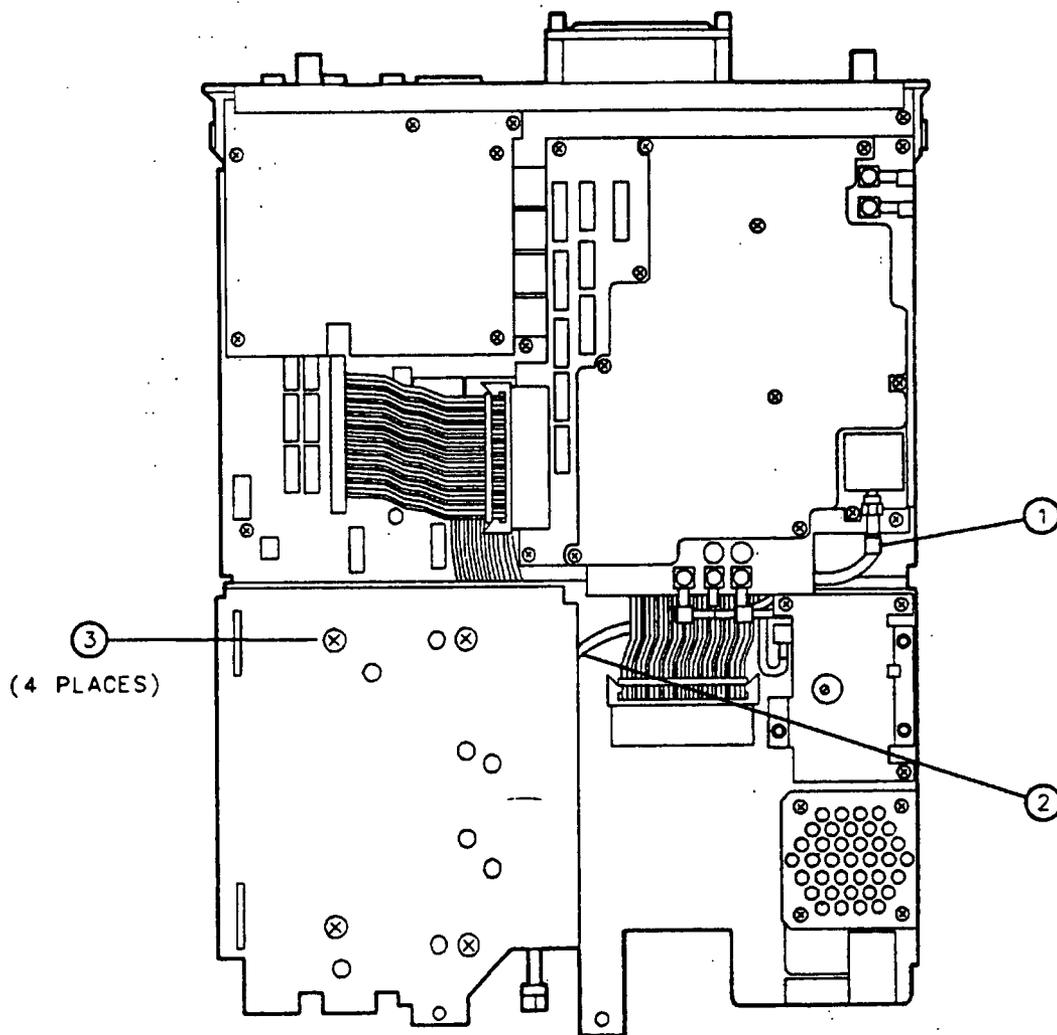
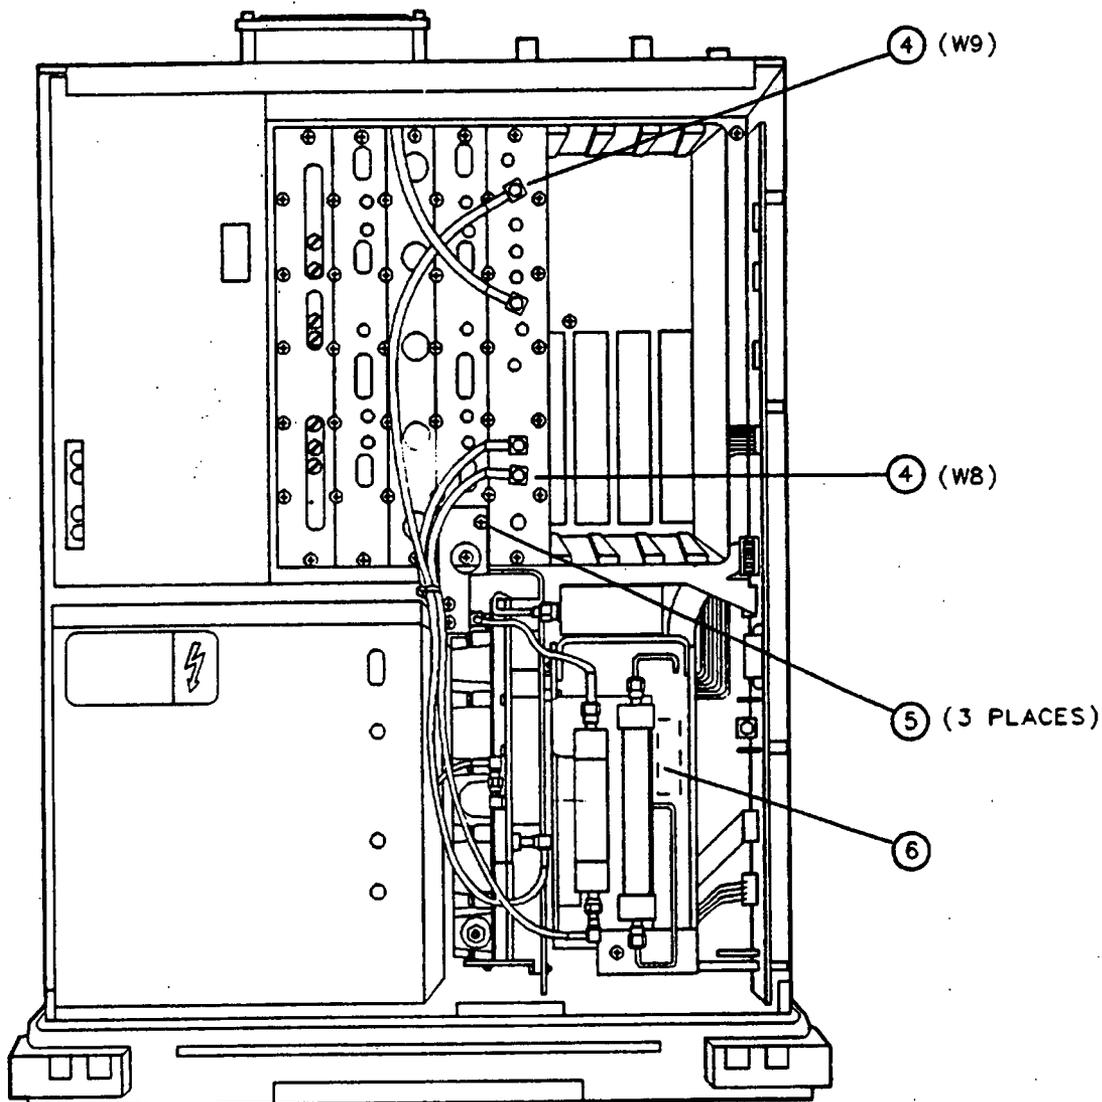

Figure 3-8. A3 Front-End Replacement, Bottom View
Figure 3-9. A3 Front-End Replacement, Top View
4. Disconnect the W20 coaxial cable (1) from AT1, the 10 dB pad. See Figure 3-8.
5. Push W20 through the slot (2) on the instrument chassis.
6. Remove the four screws (3) that secure the A3 Front-End assembly to the instrument chassis.
10. Disconnect W8 (4) from A9J5 and W9 (4) from A9J4. See Figure 3-9.
1. Tuck all cables and wire harnesses on the A3 Front-End assembly (except for cables W20 and W24) down into the space (6) between the "D" bracket and the A3A9 filter. This reduces the possibility of damaging wires while replacing the front-end assembly. See Figure 3-9.
6. Replace the front-end-to-IF support bracket, and install the three screws and two washers (5) on the bracket without tightening.
7. Connect W8 (4) to A9J5 and W9 (4) to A9J4. See Figure 3-9.
9. Install and tighten the four screws (3) that secure the front-end assembly to the chassis. See Figure 3-8.
10. Route W20 through the slot (2) in the instrument chassis and under the ribbon cable.
11. Connect W20 (1) to the AT1 assembly and tighten it to 10 inch-pounds.
13. Tighten the three screws (5) on the front-end-to-IF support bracket. See Figure 3-9.